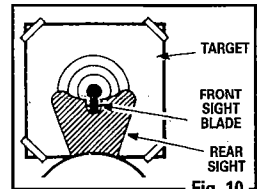

Fig. 10
- The air rifle is correctly aimed when the front sight blade is positioned exactly in the center of the notch in the rear sight. The top of the front sight blade should be even with the top of the notch in the rear sight. The bullseye should appear to rest on the top of the front sight (Fig. 10).